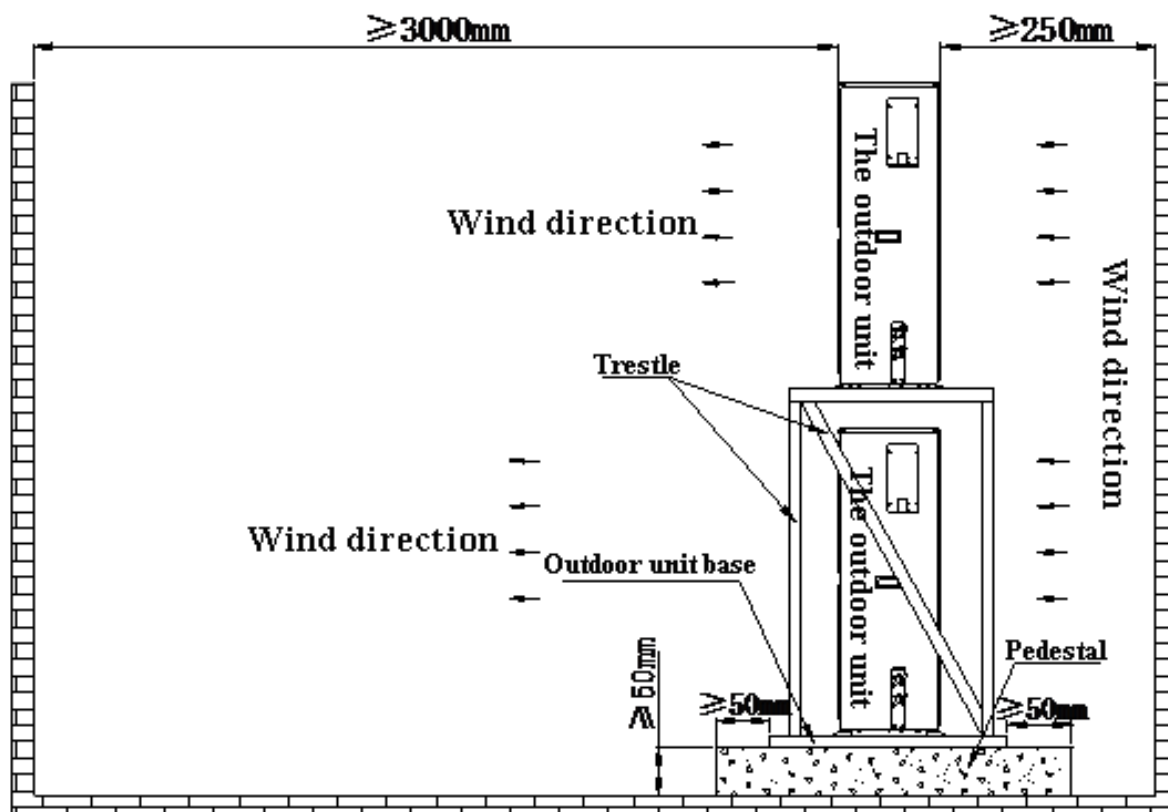

Figure 3-4. Schematic diagram of overlapping placement and installation of VCP005 outdoor unit
1. When one condenser is placed on the other condenser, the upper condenser must be installed on the bracket (as shown in Figure 3-4 below), and a cushion is installed between the unit and the bracket to play the role of shock isolation. Do not stack the two condensers directly through the screw connection!
2. If multiple outdoor units need to be overlapped, install them in accordance with the method shown in Figure 3-4.